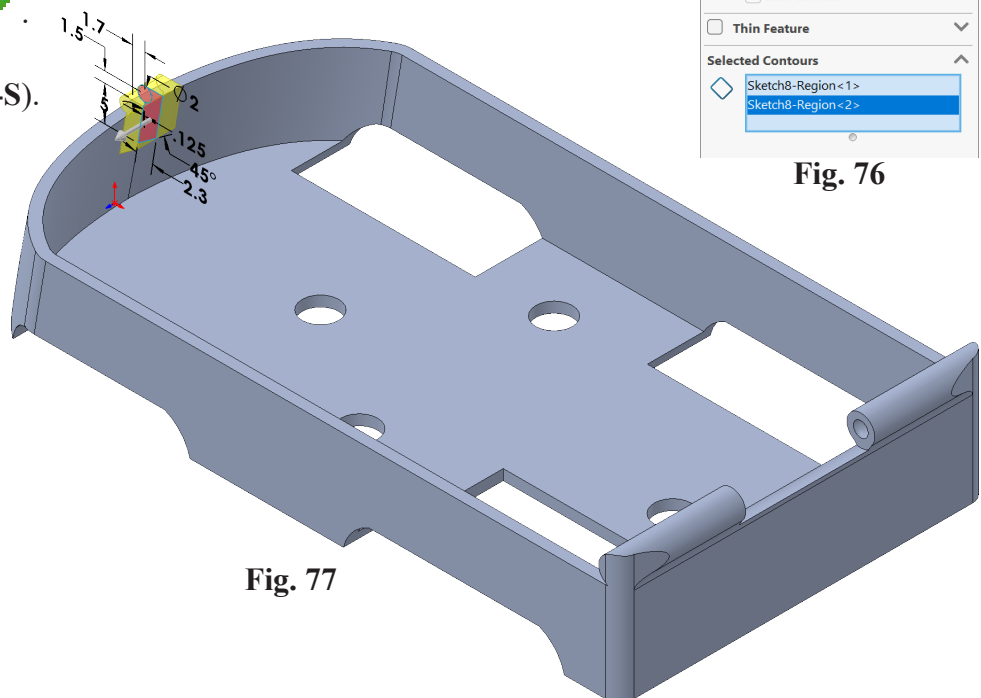

Fig. 77
Step 14. Rotate view to inside catch, **Fig. 77**. To rotate view, click **Isometric**  on the Standard Views toolbar (**Ctrl-7**), then in bottom left corner of graphics area **Shift click the Y**  **axis of the Reference Triad**  **one time.**
click the **2 contours**, **Fig. 77**